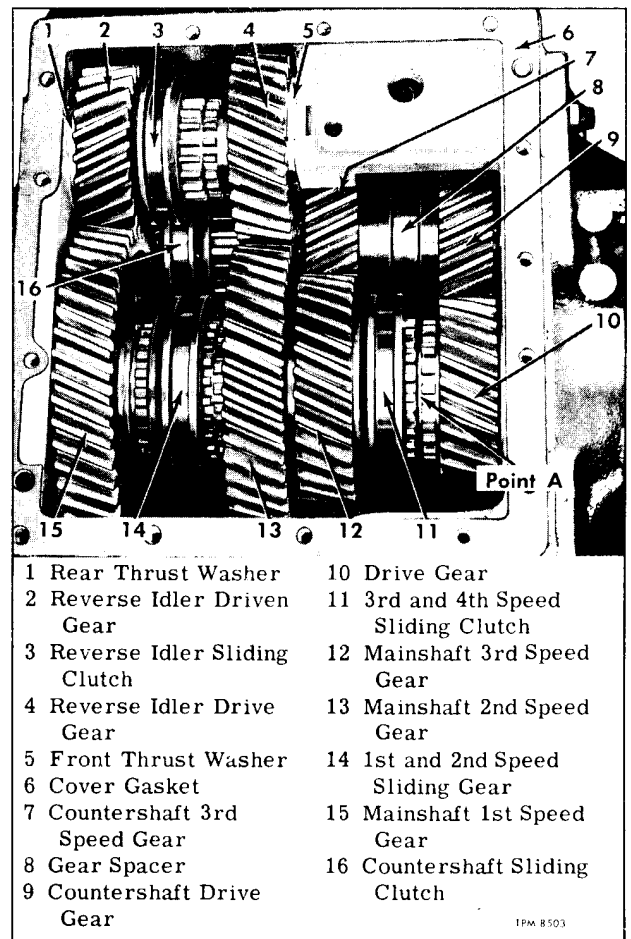

Figure 12—Transmission With Cover Removed
1. Remove oil filter assembly (23) from mounting pad on bearing cap assembly (25).
2. Remove stud nuts and washers attaching bearing cap (25). Remove bearing cap assembly and gasket (18).
3. Referring to figure 12 shift the sliding clutches to lock mainshaft so it cannot be turned, then remove bearing retaining nut (20) from drive gear (21).
4. Using puller screws in tapped holes in flange on bearing retainer (17) pull retainer and
2. Use puller in tapped hole in reverse idler gear shaft and pull shaft out of transmission case. Referring to figure 12 remove reverse gears, thrust washers and bearings.